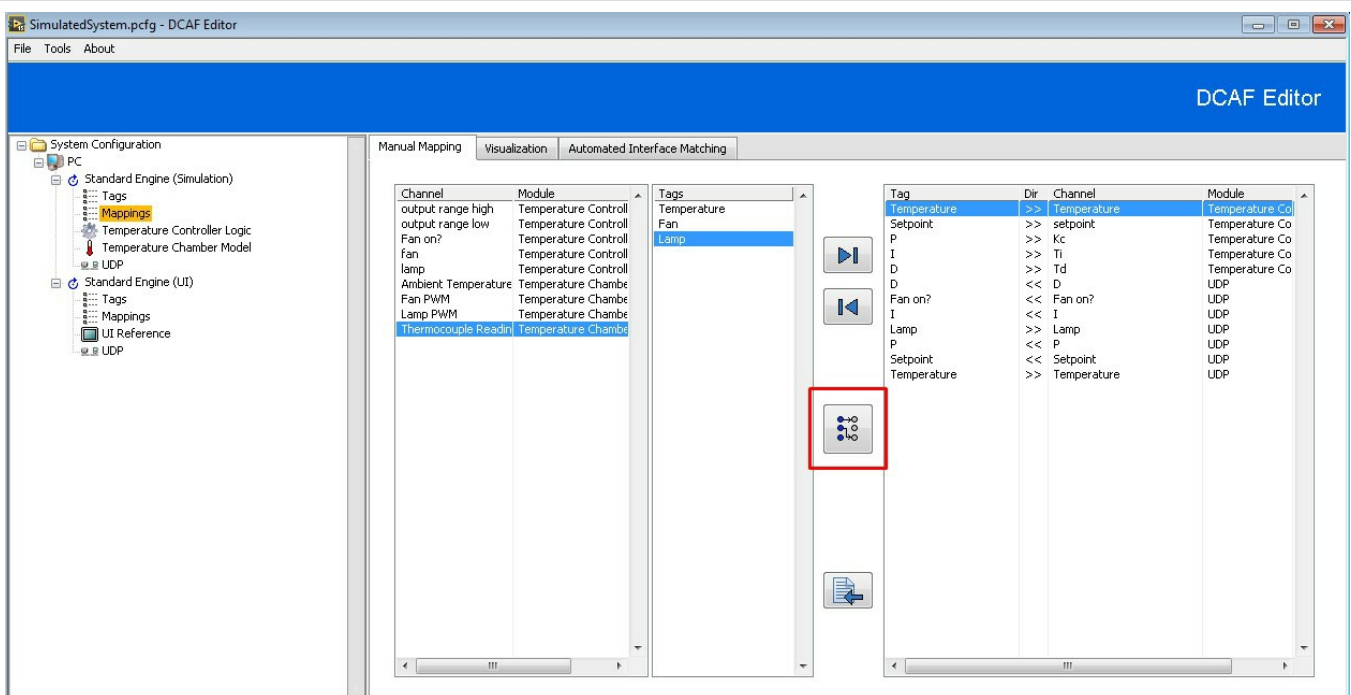
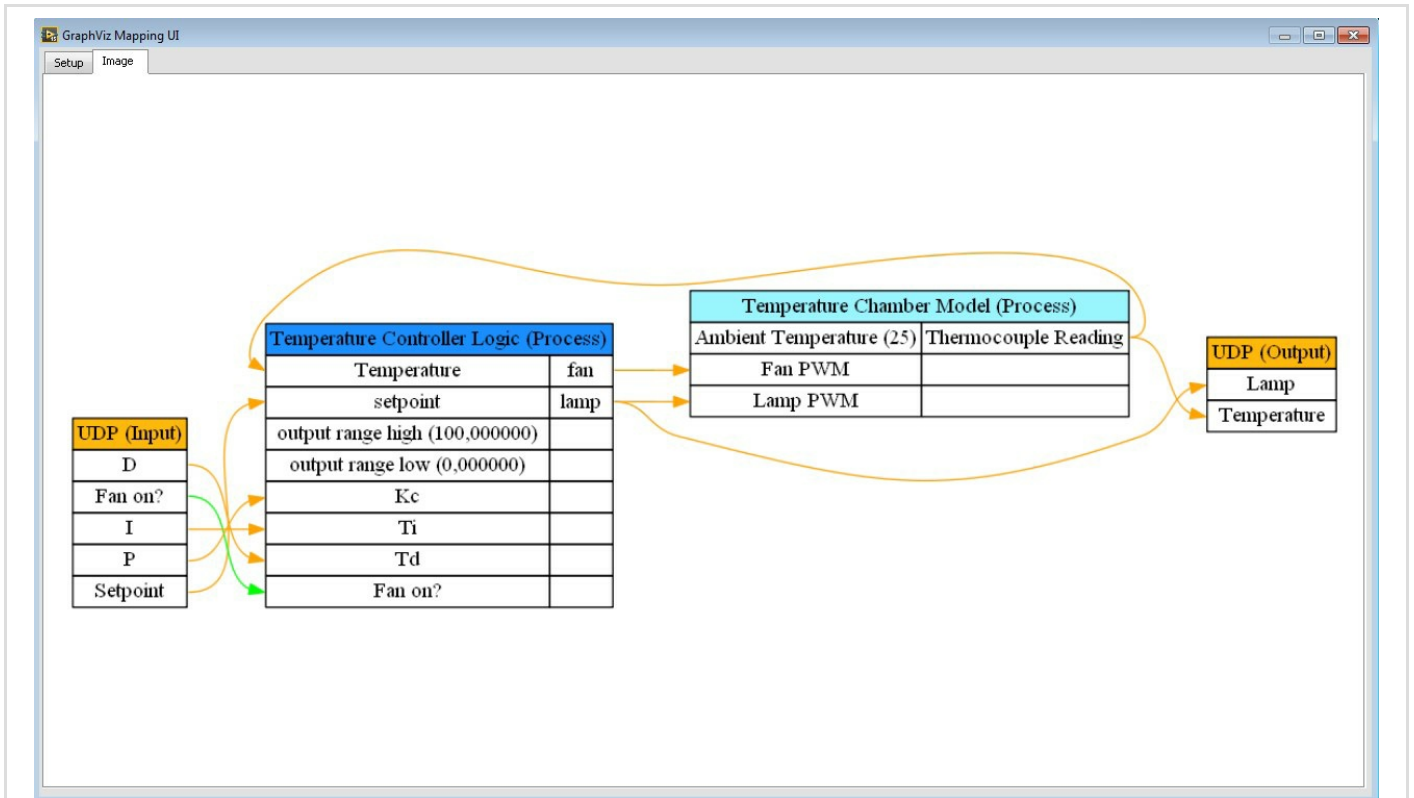

Figure 1.12
Figure 1.19
11. Click on the *Show Mappings* button that is shown in the Figure 1.12 below.
20. Open the *GraphViz Mapping UI* window by clicking on the *Show Mappings* button that was shown in Figure 1.12. Compare to make sure it matches the representation shown in Figure 1.19. As you can see, now the modules are mapped in the way we expected.